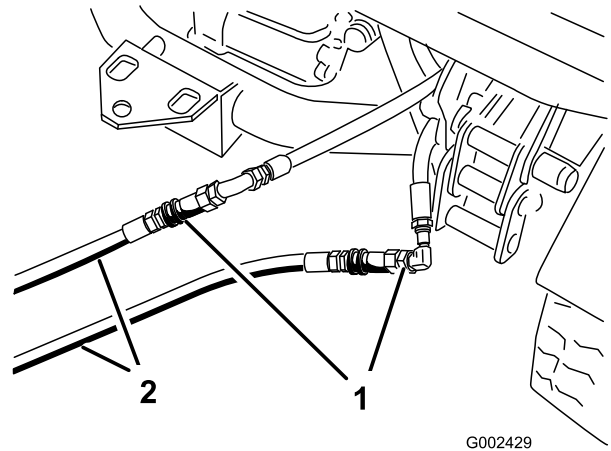

Figure 79
- On the disabled vehicle, connect the two jumper hoses to the hoses that were disconnected (Figure 79). Cap unused fittings.